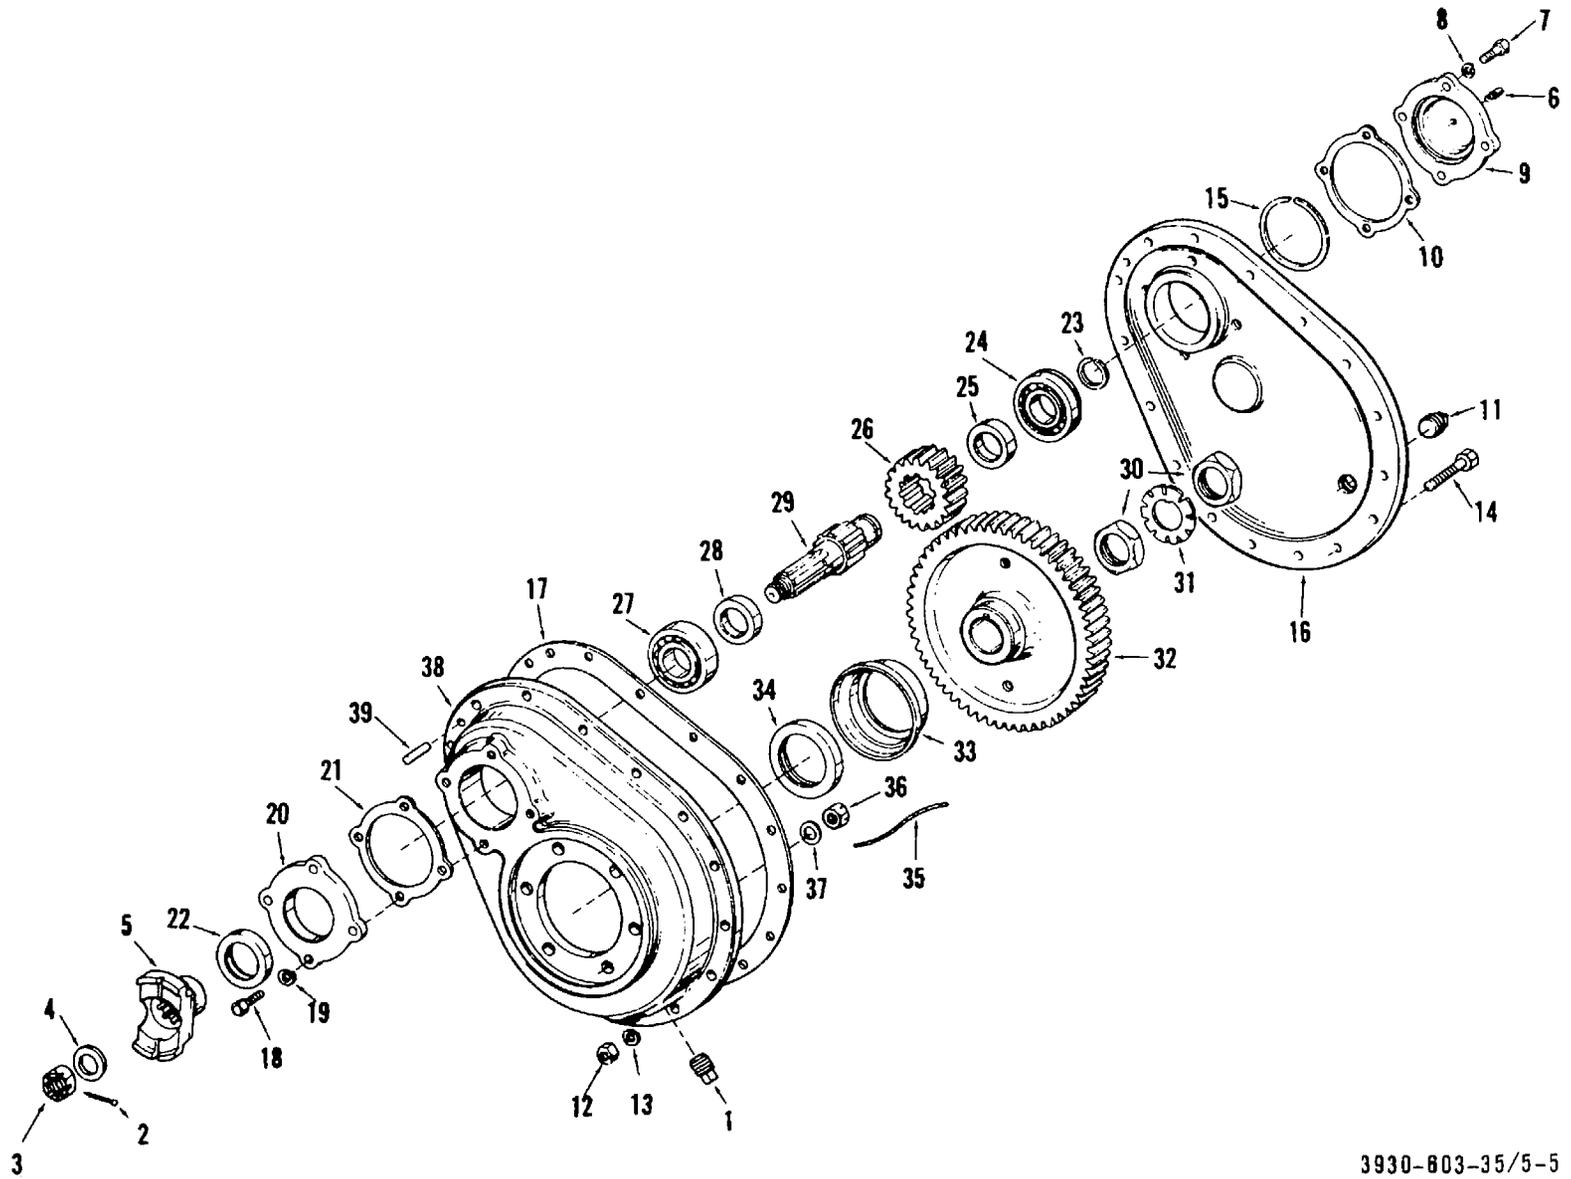

Figure 5-5. Drop gear case, disassembly and reassembly.
- (1) Drain drop gear case and differential assembly (LO 10-3930-603-12).
- (2) Disassemble drop gear case assembly as illustrated in figure 5-5. Use a gear puller if necessary to remove spur gear (32).